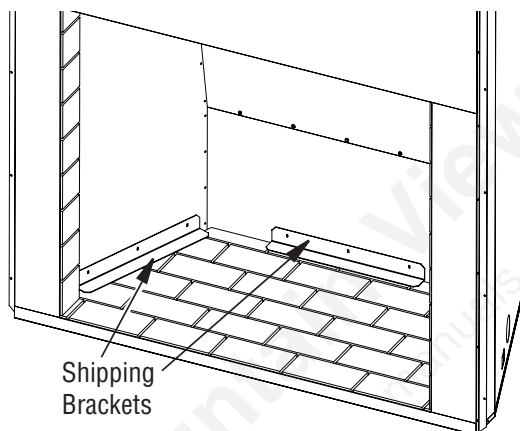

Figure 28 - Removing Shipping Brackets
1. The fireplace is shipped with the hearth preinstalled. It is held in place for shipping with 3 shipping brackets (Figure 28). Remove these brackets before installing any of the other firebrick walls.